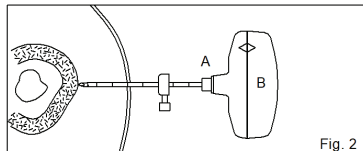

Fig. 2
**FIG. 2** Depending on the location requiring access within the bone, adjust the depth gauge on the Cutting Cannula (A) forward until in contact with the skin, then withdraw it by the desired depth, using the centimeter markers on the Cutting Cannula (A) to provide a visual guide.